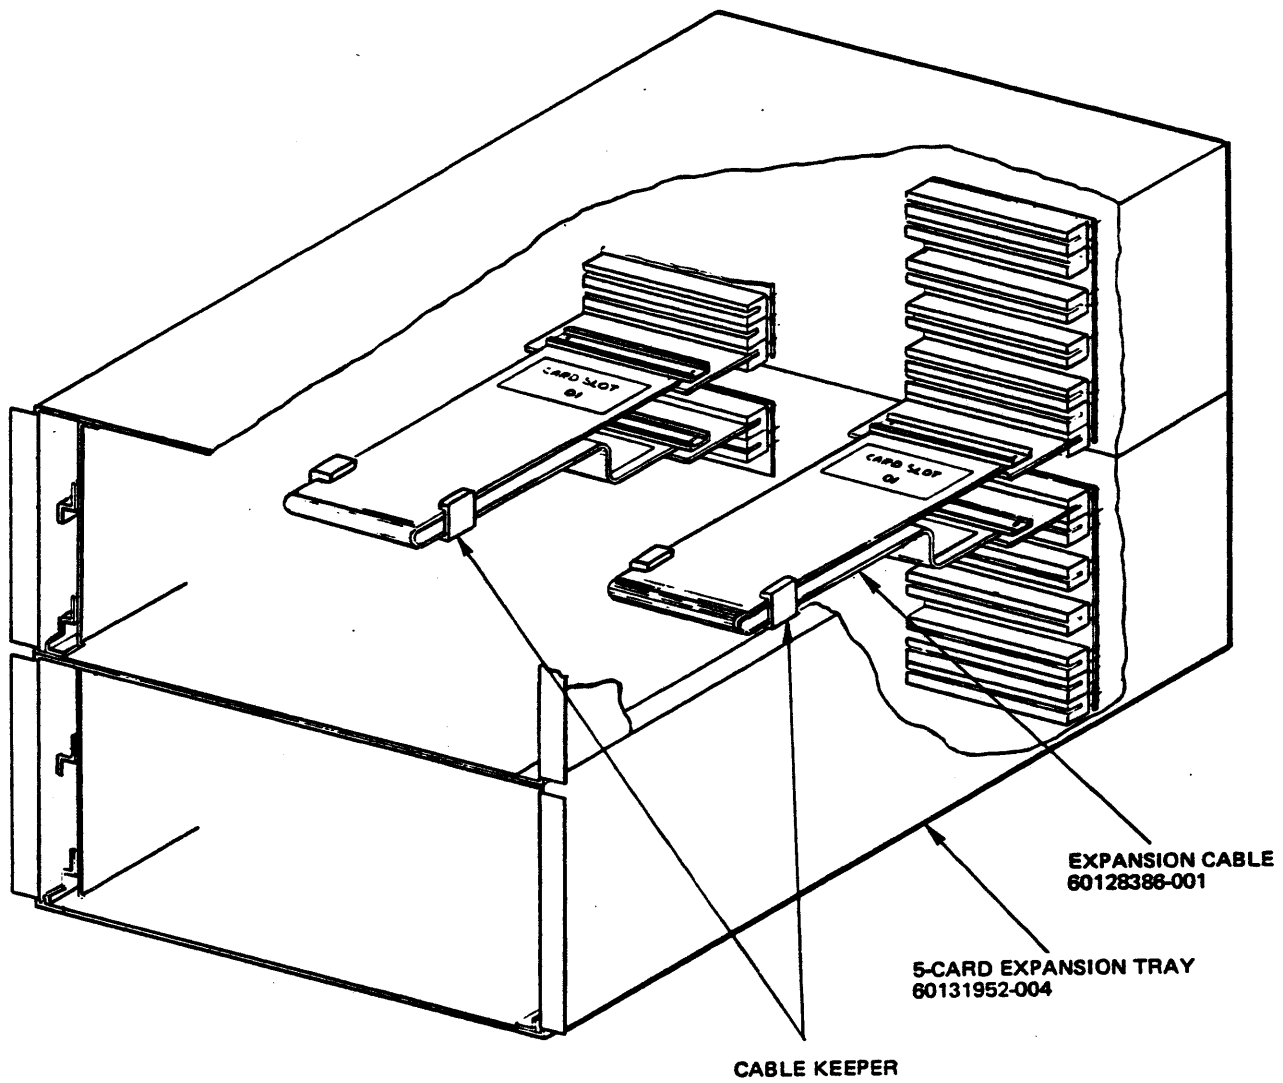

Figure 3-13 Bus Extension Chassis and Cables.
5. When more than one chassis is required, two bus extender cables (60128386) must connect the lowest slot of the upper chassis with the highest slot of the lower chassis. Figure 3-13 shows the installation of the cables in the extension chassis. (The lowest slot in the upper chassis becomes unavailable for processor/controller board use.)